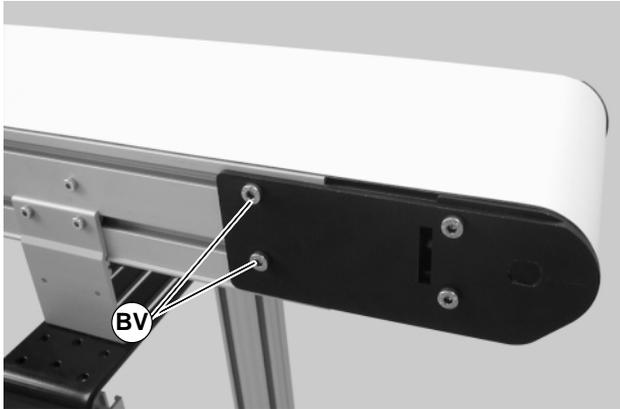

Figure 45
1. On the side of conveyor which the belt is tracking towards, loosen the head plate fastening screws (BV of Figure 45).
3. Re-tighten the head plate fastening screws (BV of Figure 45) with a 5 mm hex-key wrench to 146 in-lb (16.5 Nm).